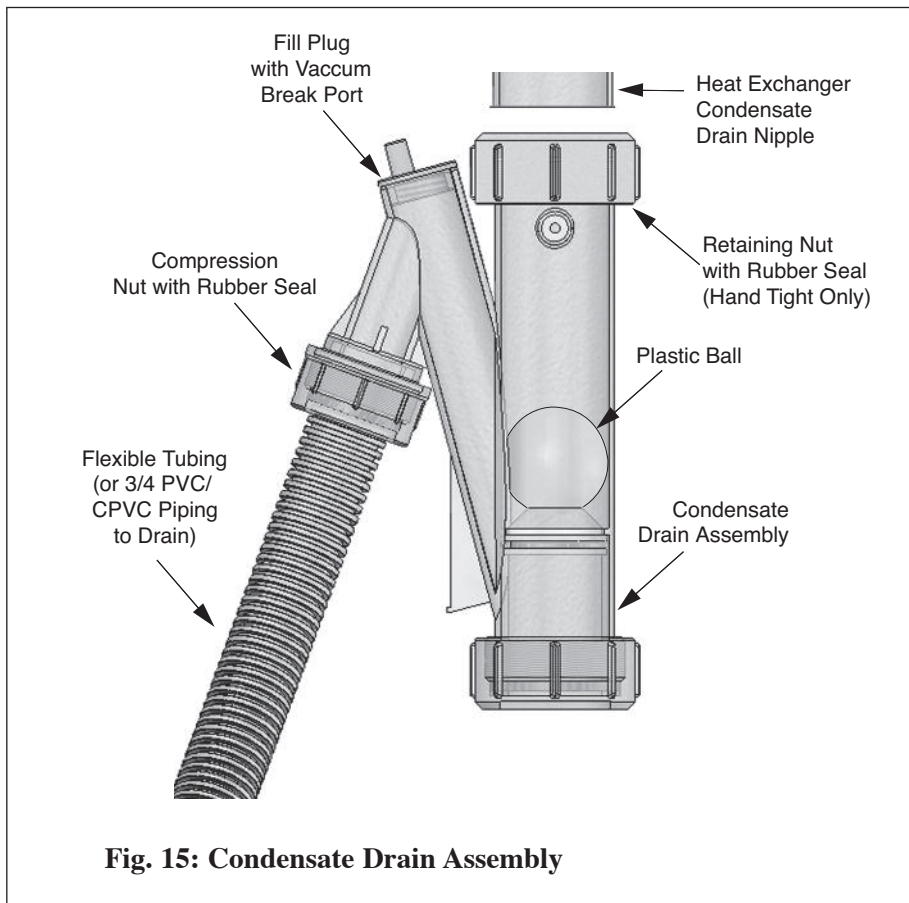

Fig. 15: Condensate Drain Assembly
1. Locate the condensate drain assembly and install as shown in Fig. 15 page 26.